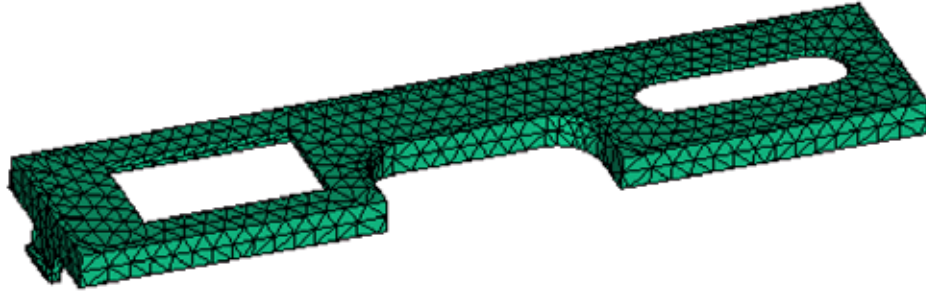

Figure 6: Meshed snap cover model
- Your model should now appear as shown in Figure 6.